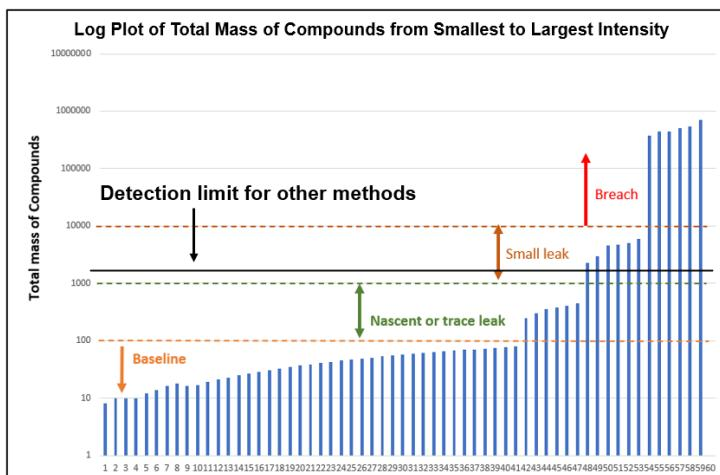

Figure 2.
**Figure 2** illustrates the mass range in nanograms that have been detected near pipeline leaks, which should also reflect a CO2 leak scenario.